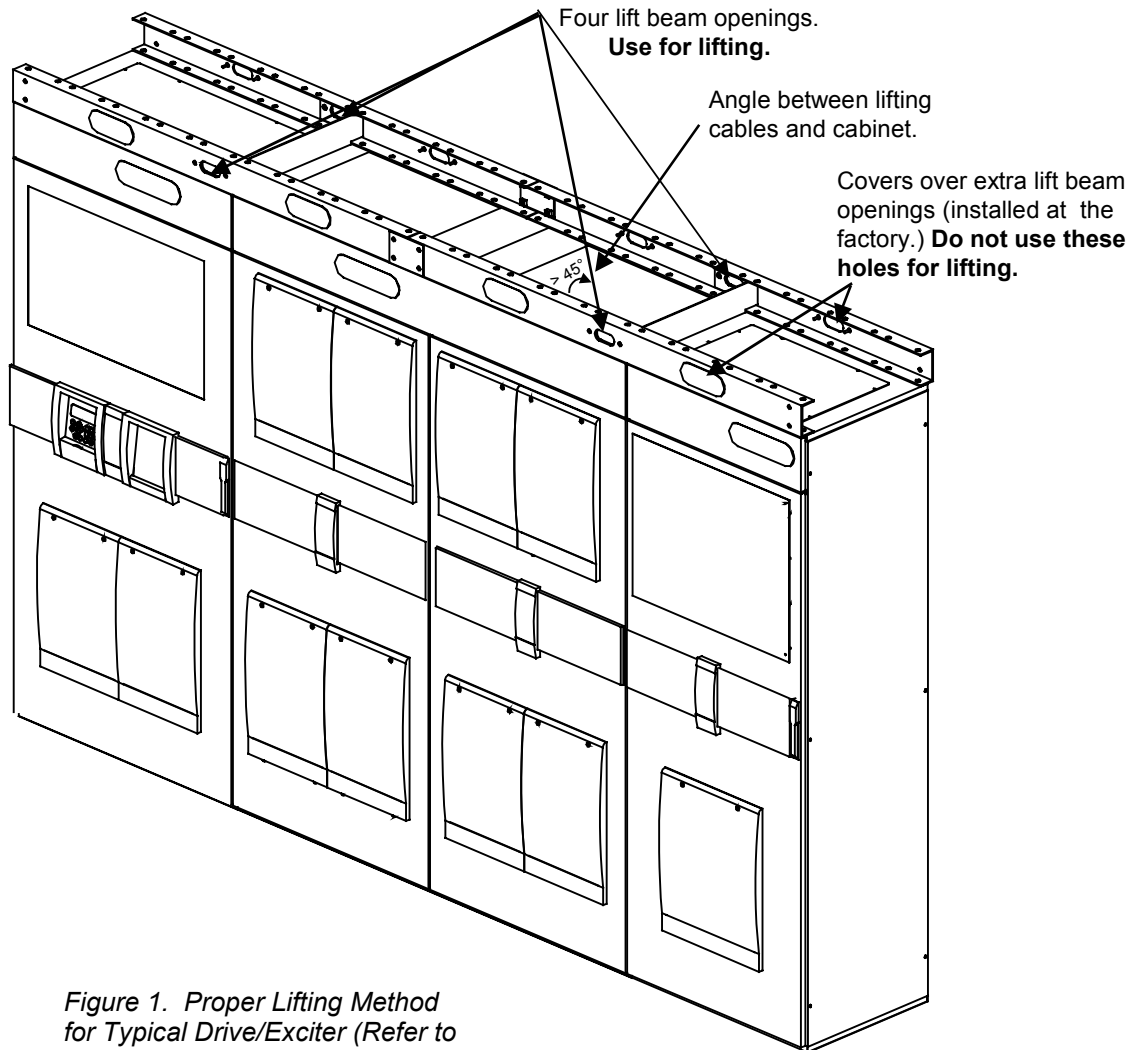

Figure 1. Proper Lifting Method for Typical Drive/Exciter (Refer to equipment outline drawings)
- Use at least four hooks for lifting (see Figure 1).